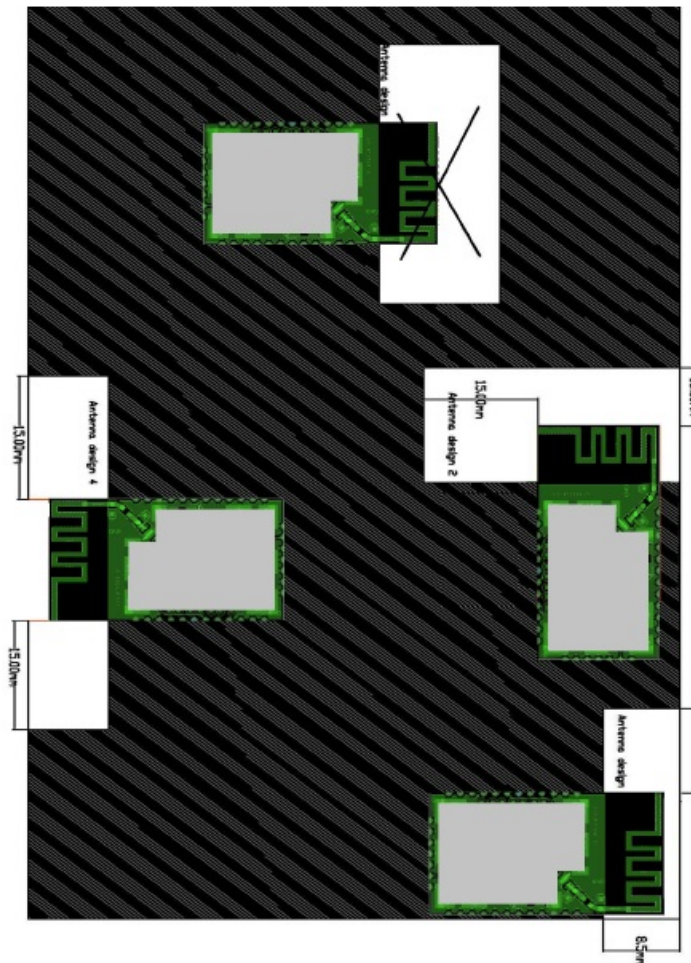

Figure 9 : Placement the module and the ground of main PCB Board
2. There should also be a good ground panel and clearance on the main PCB board on which the module is mounted. As shown in Figure 9.